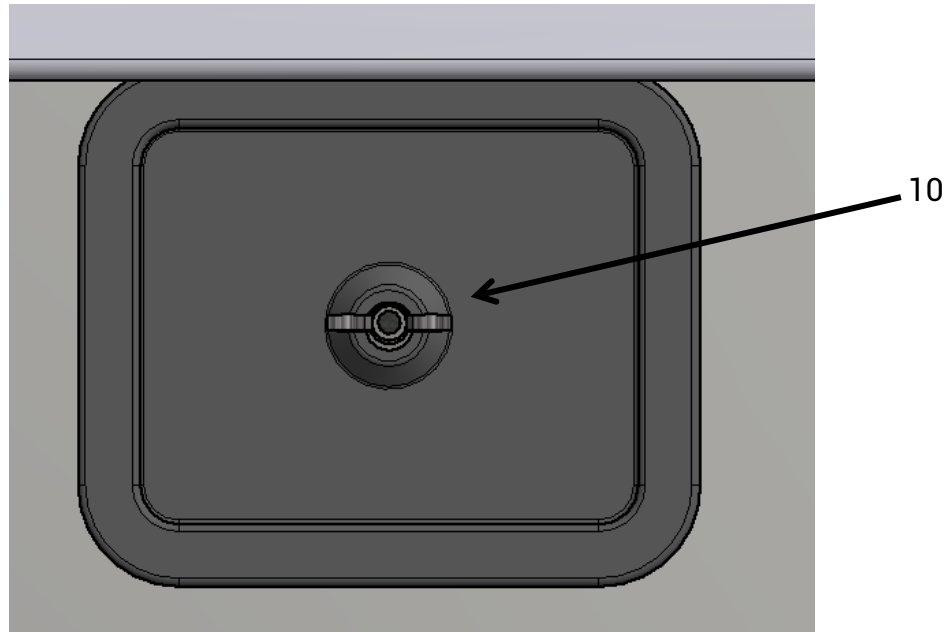

Figure. 5
There is a cover (Figure 5, item 10) behind the protective cover of the opening for cleaning. The cover is fixed with one butterfly screw on the front side of the stove and in order to clean the inside of the stove, it should be removed. Before screwing it again, the sealing braid that is on the cover should be controlled for sealing and, if necessary, it should be replaced.